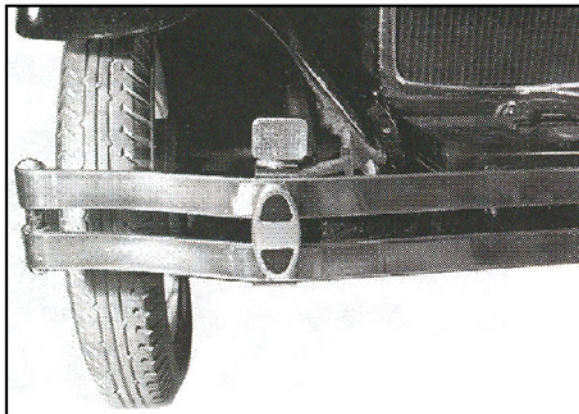
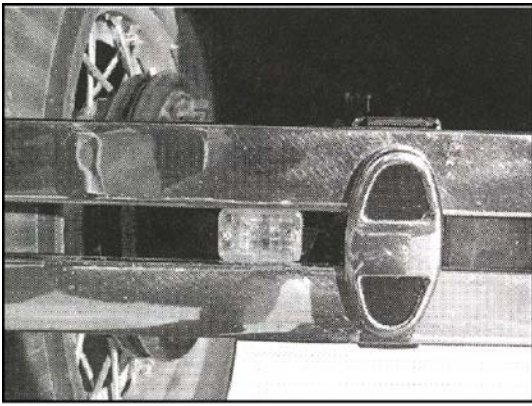

Figure 4-232
Figure 4-234
1. There are several ways to mount front turn signal lights. The addition of turn signal lights at the front bumper can be mounted on an angle bracket and bolted to the bumper clamp (Figures 4-232 and 4-233). Lights can also be located between the bumper bars and attached to the two bumper clamp bolts (Figure 4-234 and 4-235).